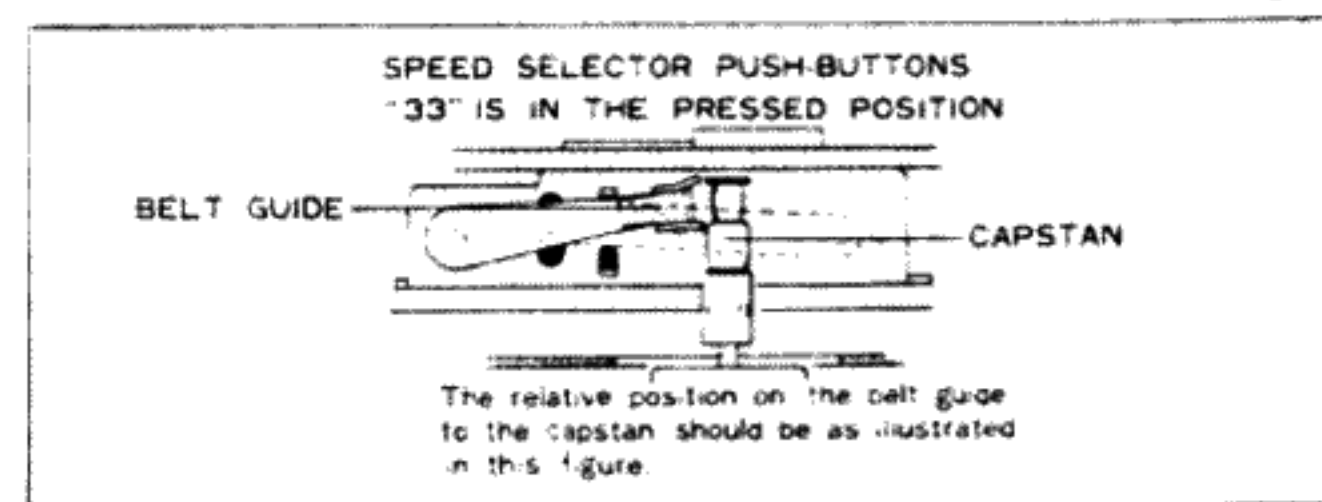

Fig. 4
- Before tightening the setscrews, set the capstan in position on the motor shaft so that the center of the belt is aligned with that of the belt guide of the shift lever. (Fig. 4)